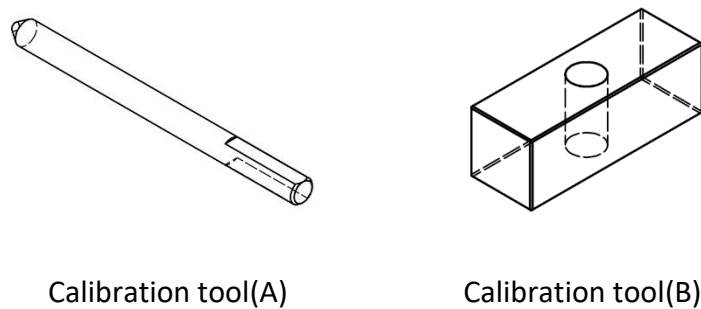
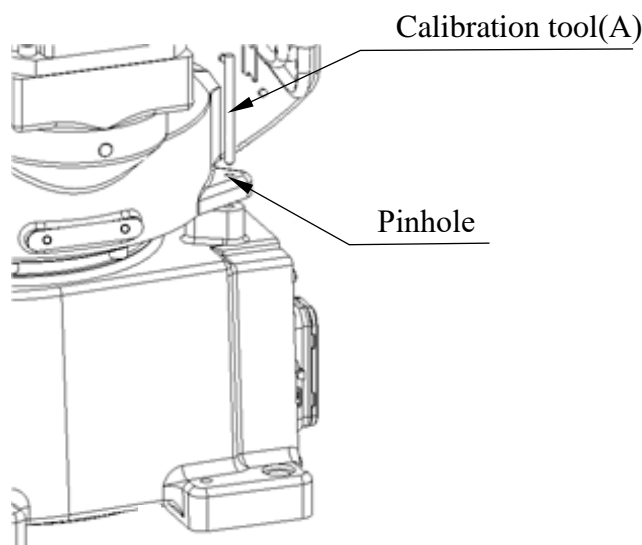
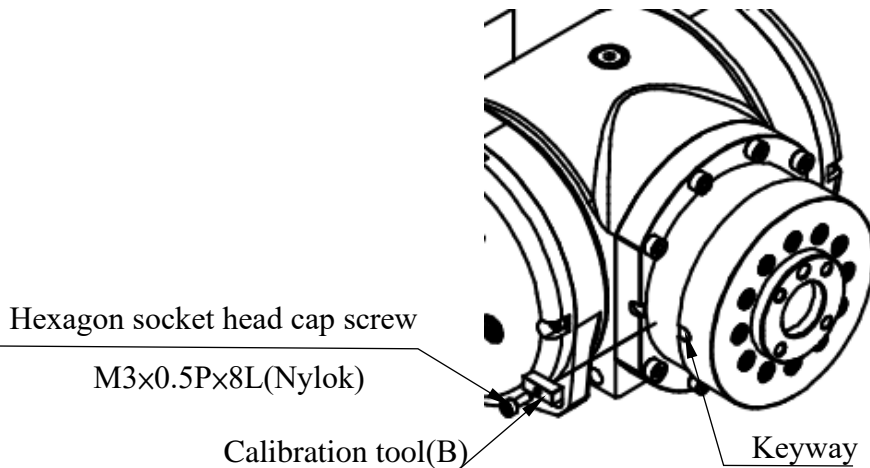

Figure 4-1 The calibration tool set
Figure 4-2 Illustration of J1-axis Zero- position setting
Figure 4-7 Illustration of J6-axis Zero- position setting
The calibration tools (HIWIN part No.: RA610Z231-3) for setting Zero-position are shown in Figure 4-1. The robot should be adjusted to the minimum speed during the calibration, and aligns the pinhole with the calibration tool to set up the Zero-position. The procedure of resetting Zero-position with the calibration tools is shown in Figure 4-2 to Figure 4-7 below.
- J1-axis Zero-position setting (please refer to the Figure 4-2)
- Step2. Insert the calibration tool(A) to the pinhole to calibrate Zero-position.
● J6-axis Zero-position setting (please refer to the Figure 4-7)